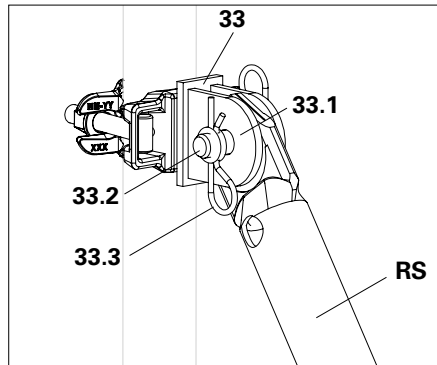

Fig. A8.03
Connect Push-Pull Prop (RS) and connection lugs (33.1) with bolts (33.2) and cotter pins (33.3). (Fig. A8.03)